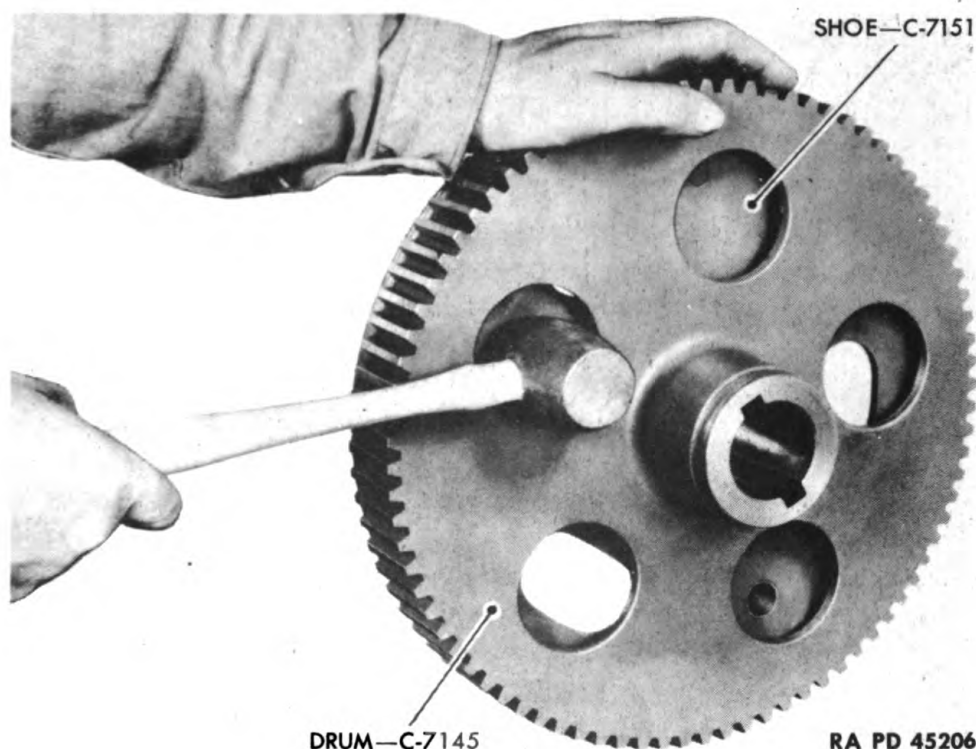

Figure 179—Removing Shoe from Elevating Brake Drum
(3) Tap shoe C7151 from drum C7145 (fig. 179).